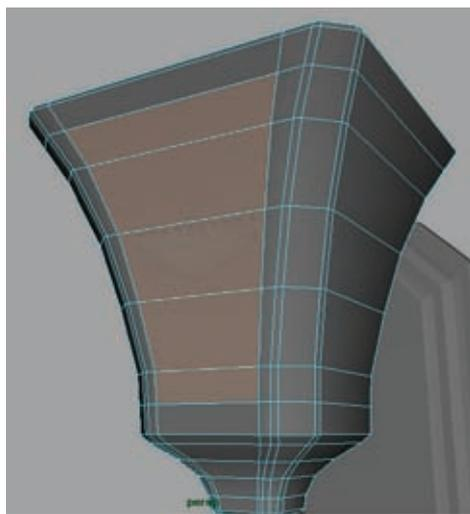

Figure 6.4
16. Using the Insert Edge Loop tool (from the Edit Mesh menu in the Polygons menu set), insert four edges that form the boundary for the selection of faces you can see in Figure 6.4. This is for the opening that the light will shine through.